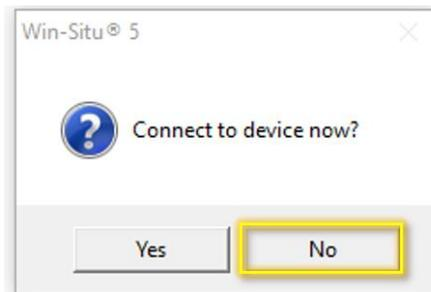

Figure 5. Connect to Device Pop-up Window
4. The pop-up window most users will experience is one asking if you would like to “Connect to device now?” pop-up window. Select “No” (Figure 5).